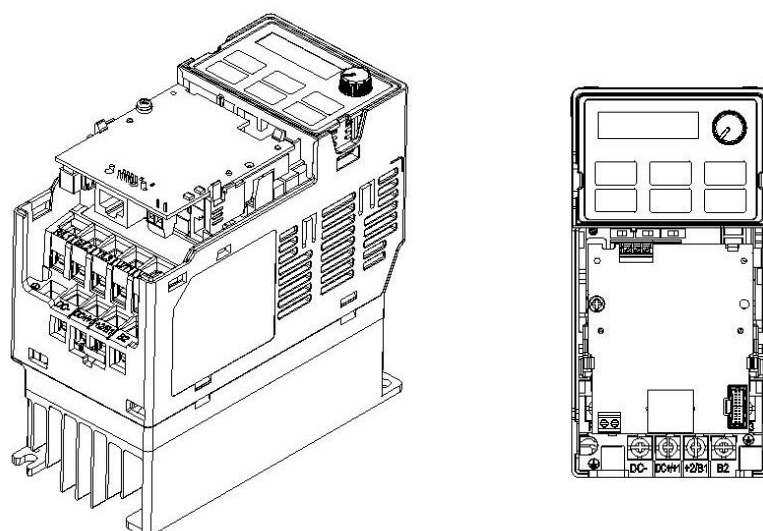

Fig. 8-6
8. Installation is completed (shown in Fig. 8-6). Put the front cover back on.